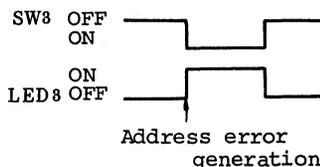

Figure 15-7. Example of FSADDR Execution
b. Example of FSADDR execution is shown in figure 15-7. When address error is generated, turn on LED3.